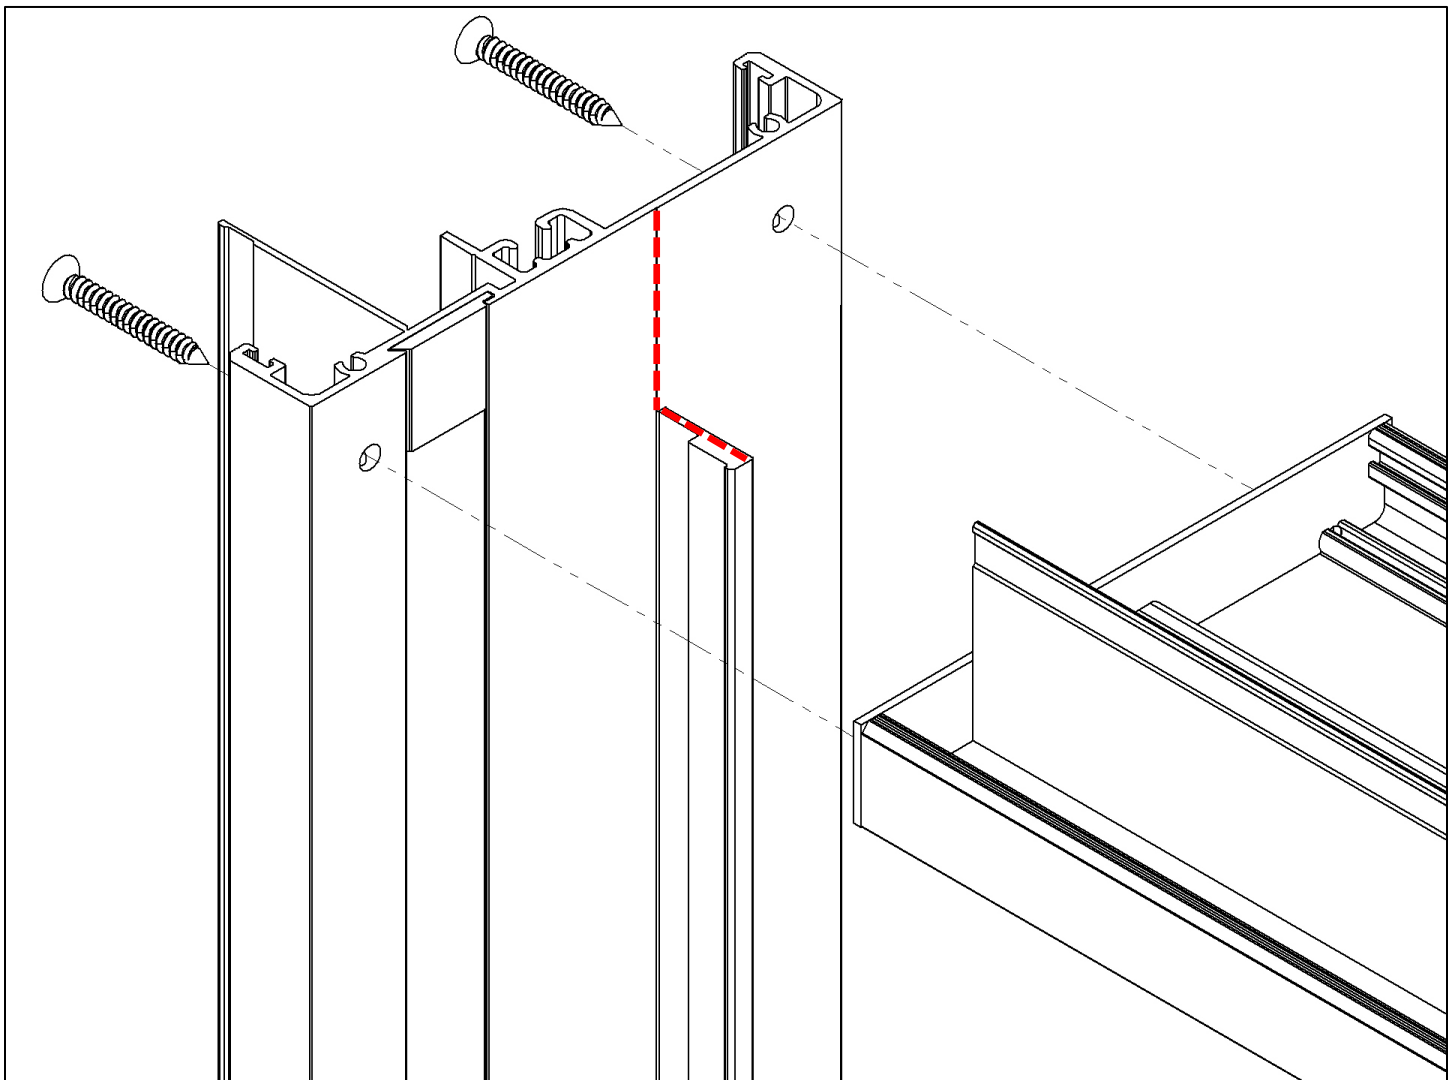

Fig. 1
1. Assemble the jambs, head and sill using #8-14 X 1-1/4" screws. Apply silicone in the area indicated prior to putting the members together (see Fig. 1). Make sure the gasket in the head and sill are in good condition before screwing the jambs.